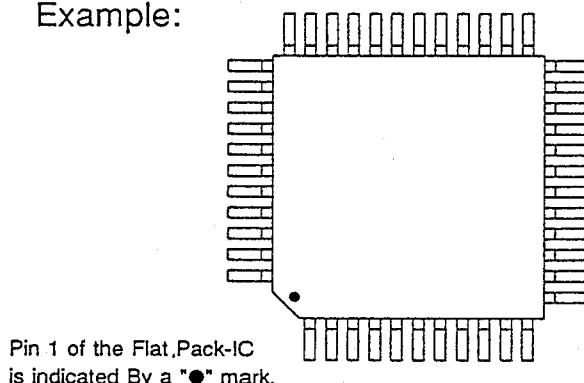

Fig. S-1-6
- (1) Using desoldering braid, remove the solder from the foil of each pin of the flat pack-IC on the PCB, so you can install a replacement flat pack-IC more easily.
(2) The "●" mark on the flat pack-IC indicates pin 1. (See Fig. S-1-6) Be sure this mark matches the 1 on the PCB when positioning for installation. Then pre -